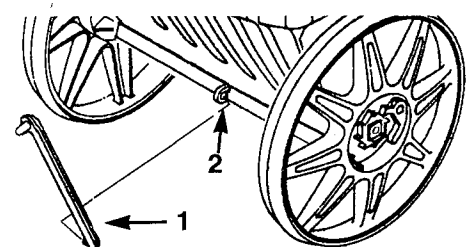

Figure 9
9. Line up the key of the connecting rod with the slot in the flow adjuster tab. From right to left, insert the end of the connecting rod into the flow adjuster tab (Fig. 9).